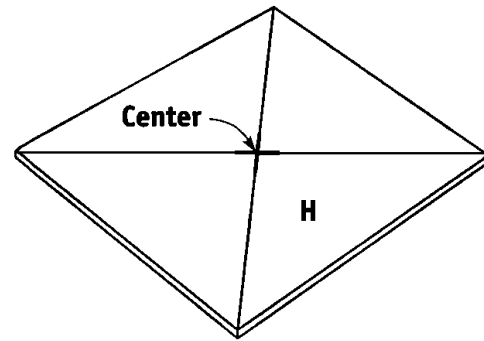

Figure 6
1. Find the center of the purchased 12 x 11-1/4-inch clear plastic sheeting (H). Use a ruler to draw two bisecting lines, each from opposing corners, as shown in Figure 6. The center is the point at which the lines intersect. Drill a hole and add the drawer pull. Note: Don't get discouraged about which side the drawer pull should be--you can't do that incorrectly! (We tried!) If you do not plan to change the decorative contents of the box, you can seal the plastic sheets with clear silicone.